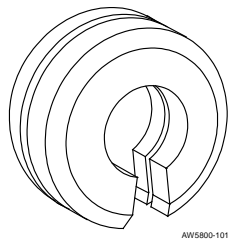

Figure 36. Notching the Grommet
- B. Cut a notch in the supplied grommet (P/N 146-0014-000) and place it on the sensor cable. See Figure 36.